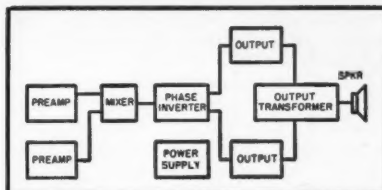

Fig. 3. Block diagram of a more or less standard audio amplifier. Refer to text.
**The audio amplifier:** Fig. 3 is a block diagram applicable to most audio amplifiers. This diagram covers most amplifiers encountered in phonograph and p.a. work, although somewhat simpler circuits may be used occasionally (single-ended output instead of push-pull, for example).